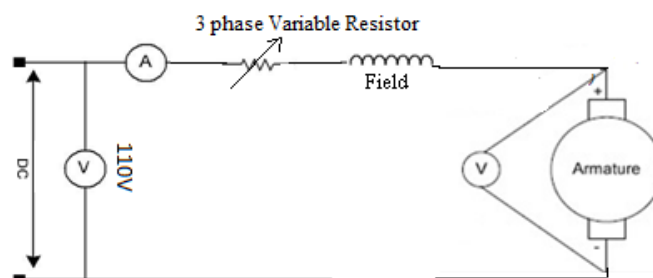

Figure 8.2. Speed control of DC series motor using armature resistance control
In Armature resistance control method, a variable resistance is directly connected in series with the supply to the motor. This reduces the voltage available across the armature and hence the speed falls. By changing the value of variable resistance, any speed below the normal speed can be obtained. This is the most common method to control the speed of DC series motor. Although this method has poor speed regulation, but this has no significance in case of series motors, because they are used in varying speed regulations. The loss of power in series resistance for many applications of series motors is not too serious, since in these applications the control is utilized for large portion of time for reducing speed under light load conditions and is only used intermittently when the motor is carrying full load. The circuit diagram for speed control of series motor using Armature Control Method is shown in Figure 8.2
1. Make connections as shown in Figure 8.2 by placing a variable resistance in series with the armature and field winding.